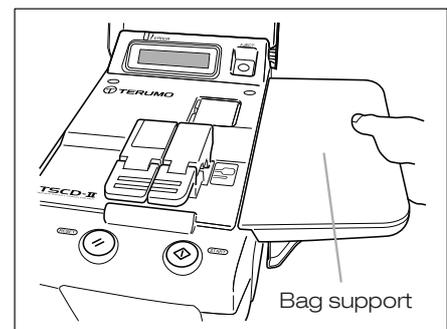

Figure 14
1. The Blood Bag support has two tips, one on each end. Snap the tips carefully into the respective holders on the TSCD®-II (See Figure 14).